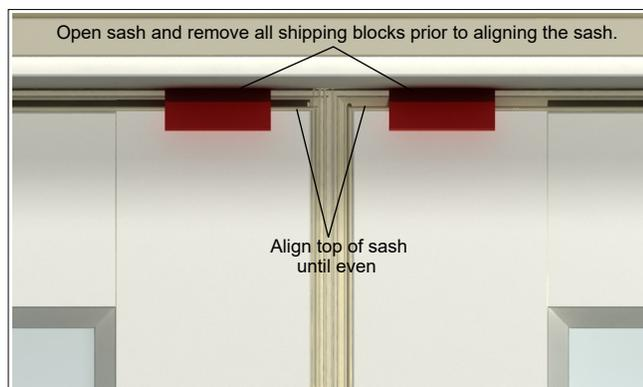
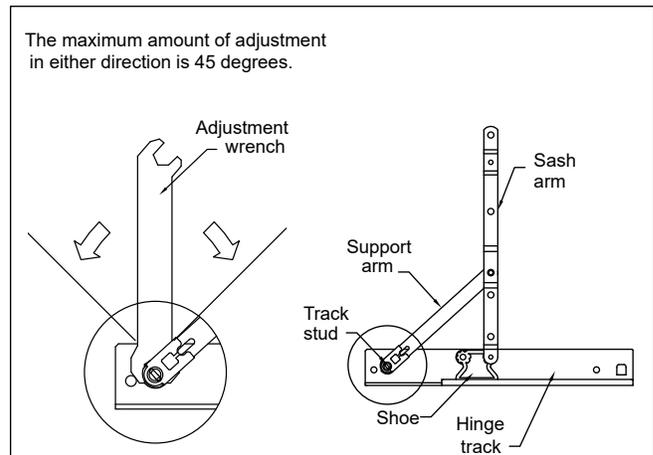

Figure 2 Adjust the top edges of the sash.
Figure 3
1. Place 3/8" adjustment wrench between hinge arm and hinge track. Turn the wrench left or right to align the top of the primary sash with the secondary sash. See figure 2 and figure 3.